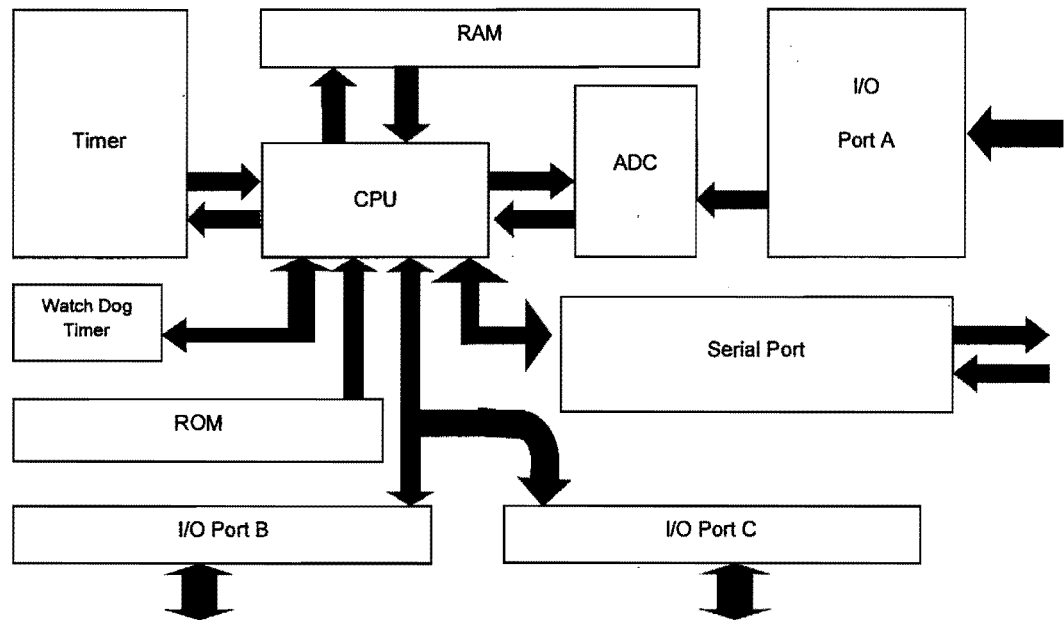

Figure Q1.1. Basic architecture of a microcontroller
- b) Fig. Q1.1 below shows the basic architecture of a microcontroller. Explain in detail the function of each of the following modules: CPU, Watch Dog Timer, and ADC. [7]